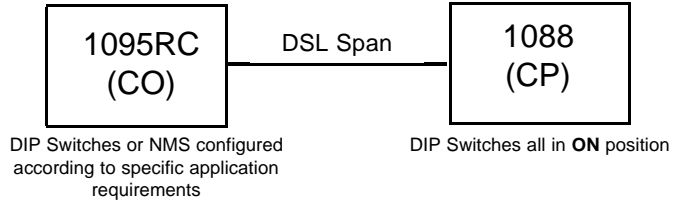

Figure 3. Typical NetLink Plug-and-Play Application
1. Set the Model 1095RC (CO) to either Internal or External clocking mode as defined by the application.
2. Set the Model 1088 (CP) to “NetLink Plug-and-Play CP” by setting all S2 and S3 DIP switches in the ON position as described in Figure 3, below.